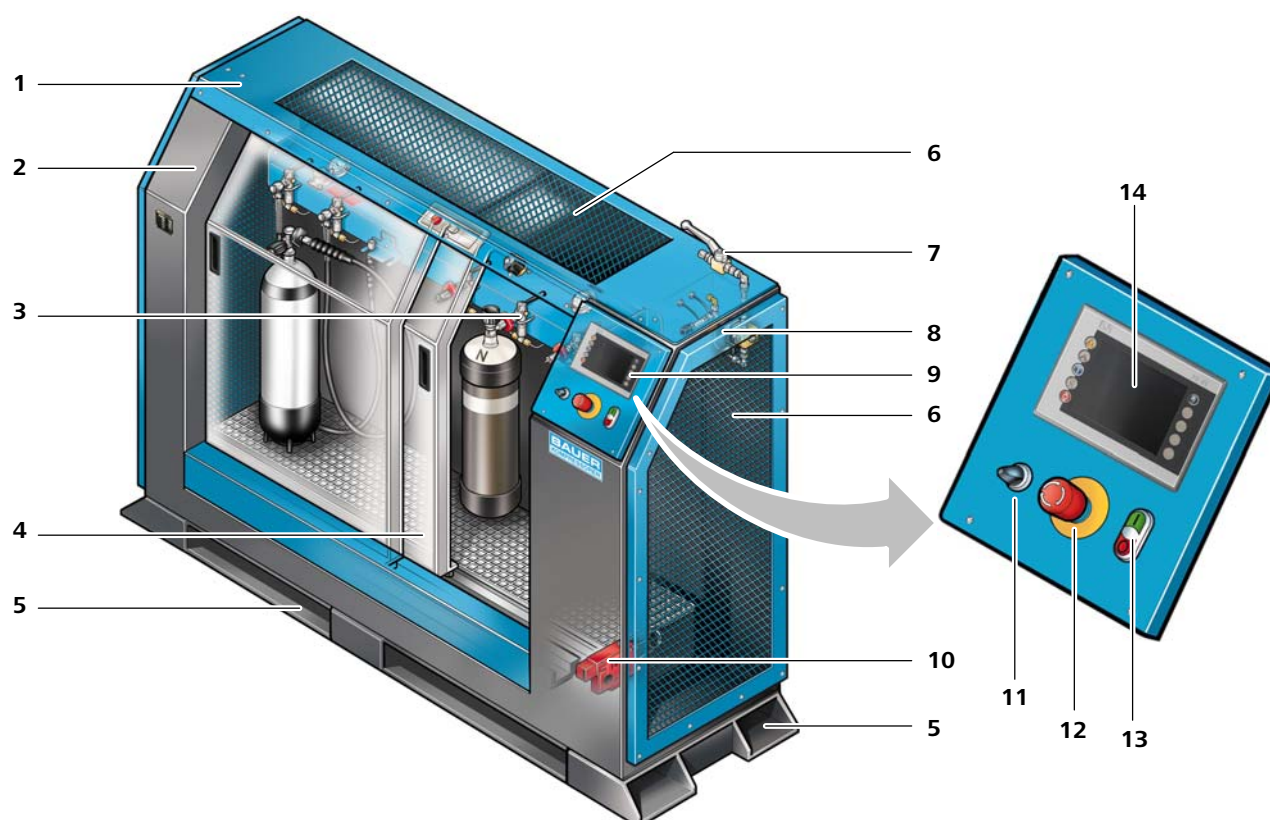

Fig. 1 B-SAFE 300 with integrated filling ramp (optional)
In case of danger, it is possible to stop filling the cylinders immediately by pressing the emergency switch (12, Fig. 1). It interrupts the electric supply and:
To restart the B-SAFE ramp, rotate the emergency switch (12, Fig. 1) by a quarter turn to the left and then press the "0" key (13). The indicator light stops flashing and the message "EMERGENCY STOP" disappears from the screen. The filling of cylinders can start again.